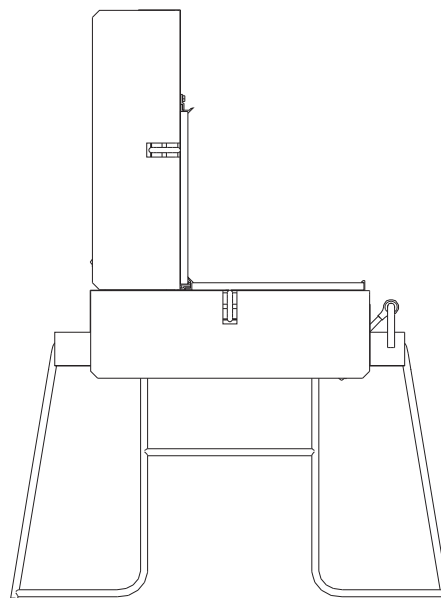

Fig. A2.10
2. Place lifting unit on the frame and attach using bolts SW 30. (Fig. A2.10 + A2.10a)